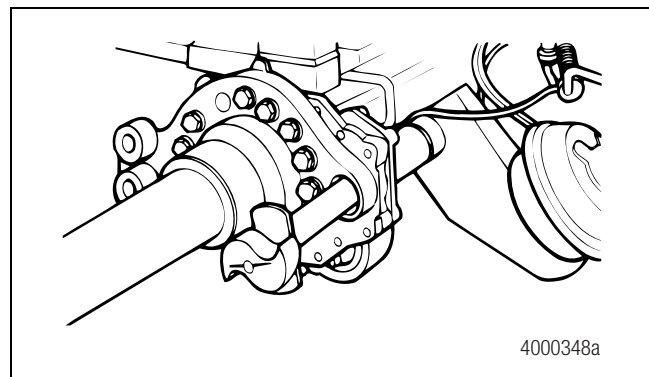

Figure 3.13
2. Install the camshaft through the spider and bracket so that the camshaft turns freely by hand. Figure 3.13.